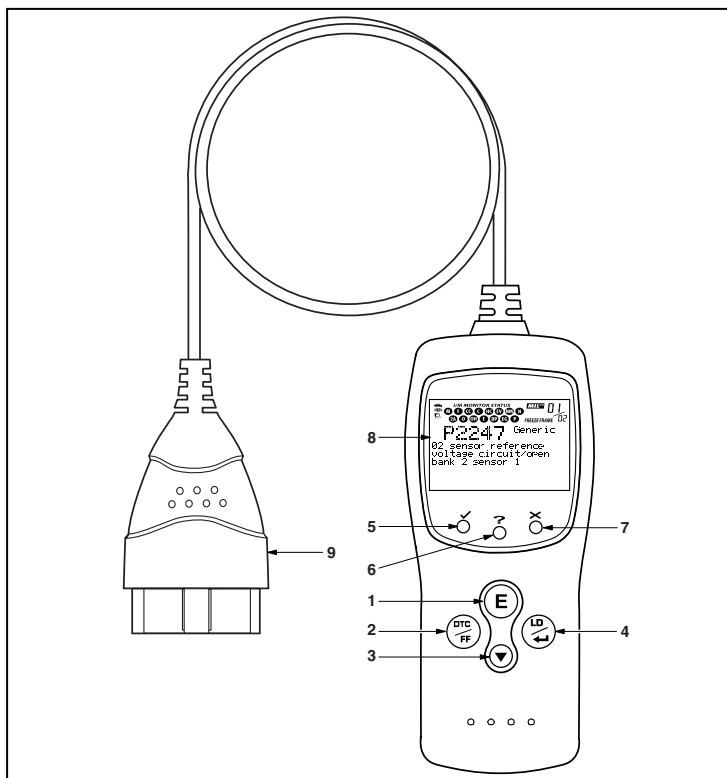

Figure 1. Controls and Indicators
See Figure 1 for the locations of items 1 through 9, below.
1. **(E) ERASE button** - Erases Diagnostic Trouble Codes (DTCs) and "Freeze Frame" data from your vehicle's computer, and resets Monitor status.